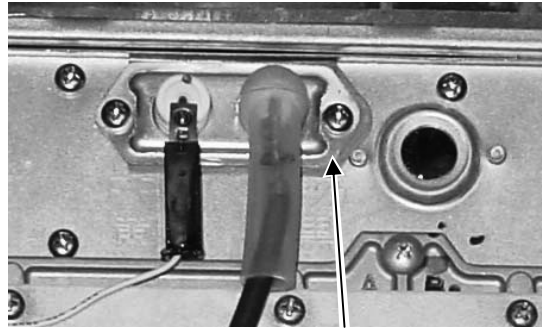

Figure 83 Electrode Gasket
25. Replace the electrode gasket. (Figure 83)